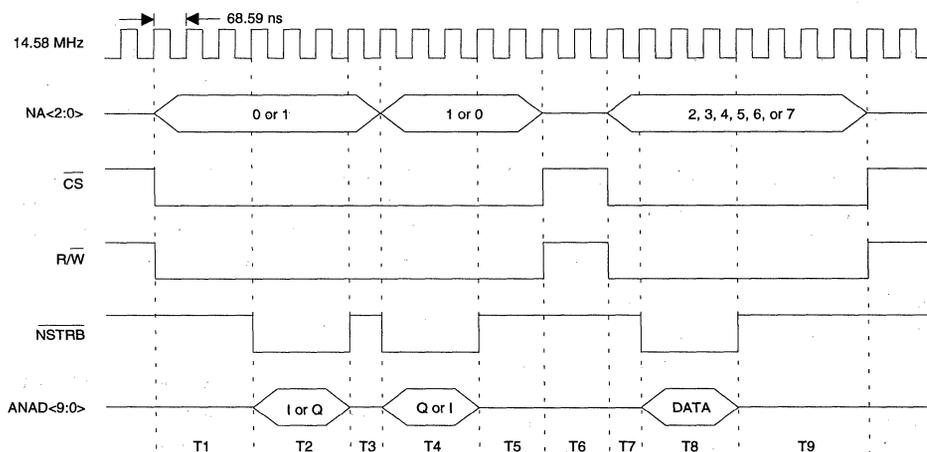

Figure 3. Transmit Timing
- 4) If both I and Q samples are being input, then the two samples must be input with the second sample being written immediately after the first sample (as shown in Figure 3). Six clock cycles after the rising edge of $\overline{\text{NSTRB}}$ associated with the first sample, the latest two I and Q samples are simultaneously shifted into the DAC.